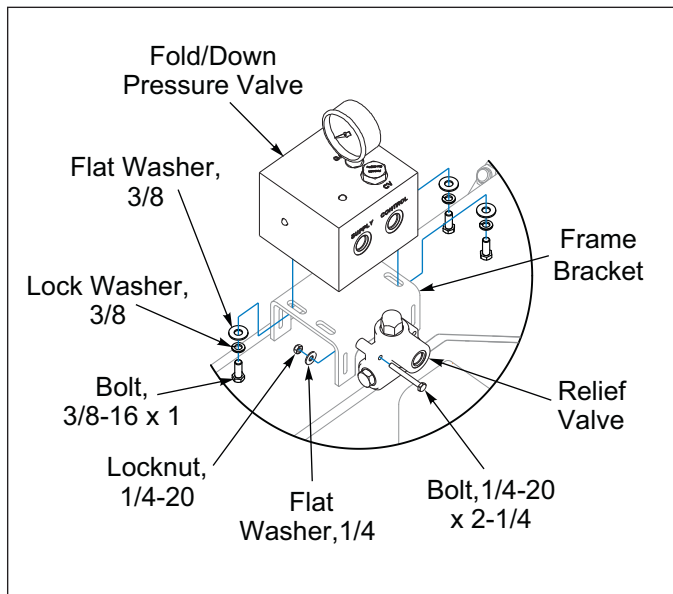

Figure 2-21: Fold/Down Pressure and Relief Valves
1. Attach Fold/Down Pressure Valve to Frame Bracket with 3/8-16 x 1 Bolts, Flat and Lock Washers and attach Relief Valve to Frame Bracket with a 1/4-20 x 2-1/4 Bolts, Flat Washers and Locknuts. **See Figure 2-21.**